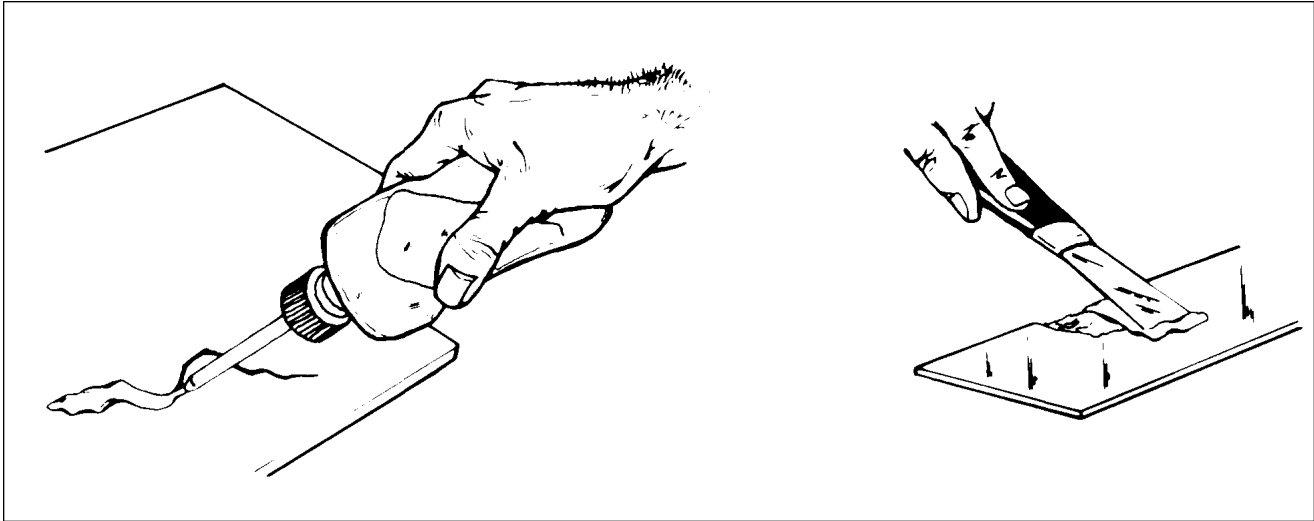

Figure 51-3. Deep Scratches, Shallow Nicks and Small Holes
3. Deep Scratches, Shallow Nicks and Small Holes: (Less than 1 inch in diameter.) (Refer to Figure 51-3).